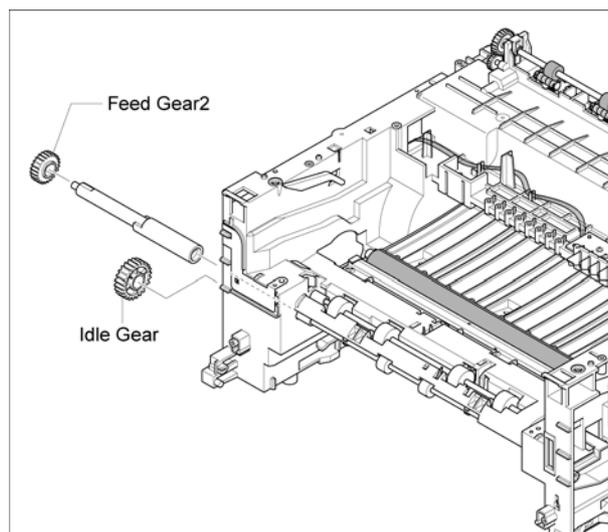

Figure 4
5. Remove the Idle Gear 23 and Feed Gear 2, Figure 4.